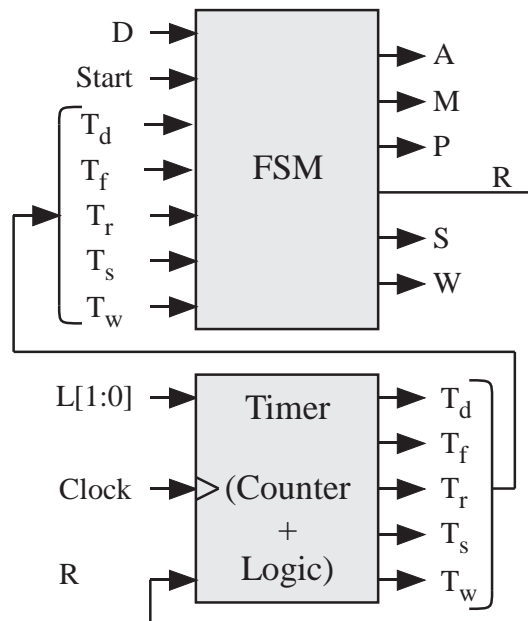

Figure 2: The main components of the wash machine controller.
Figure 2 shows the main components of the wash machine controller. The controller is
- Design the timer in Fig. 2 by using a counter similar to the one you did in the tutorial but having the timing specs in Table 3.